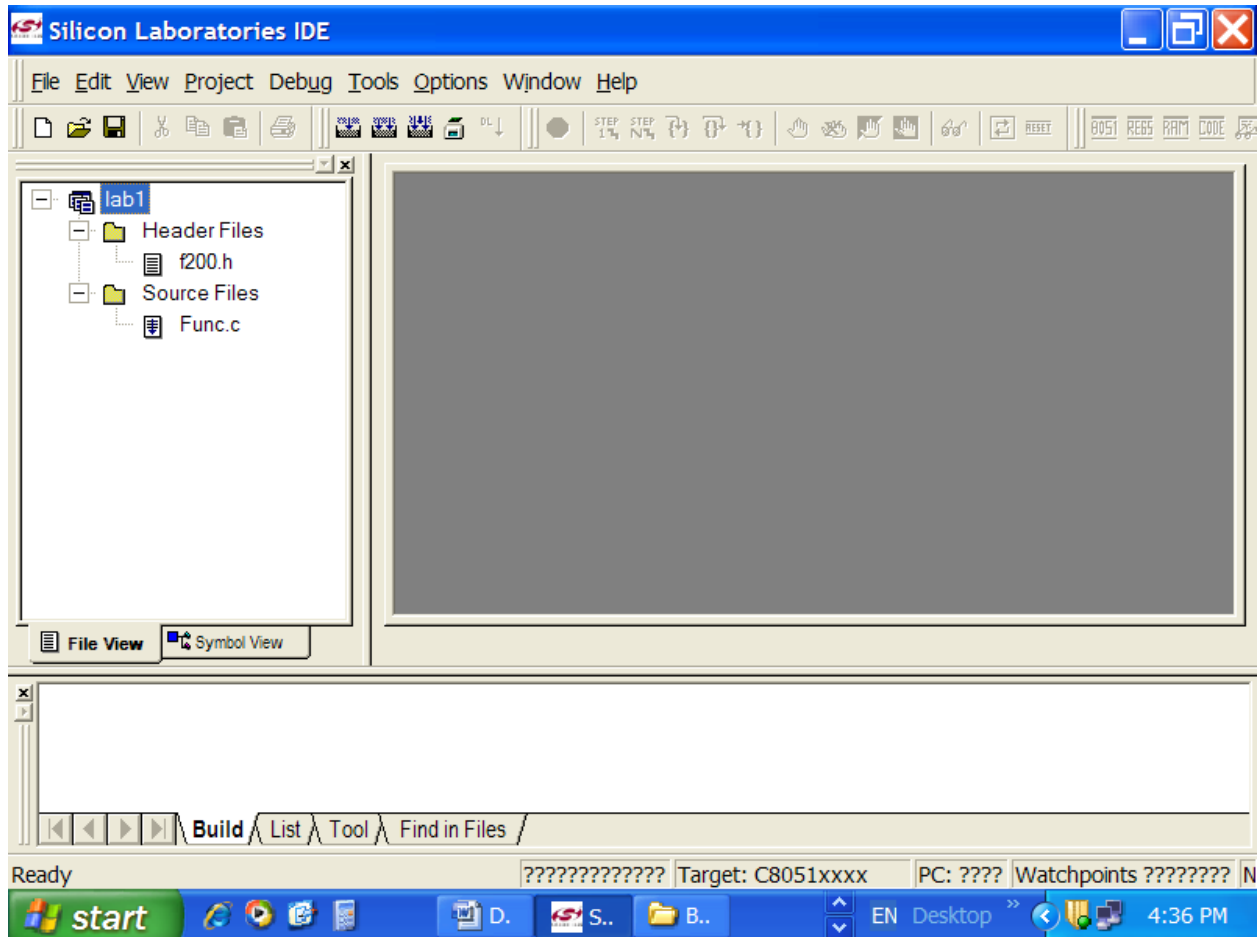

Figure 5.3
- 5.4 By now, your IDE workspace should look like figure 5.3. Note the difference in the icons representing the header file and a "build-able" source file.